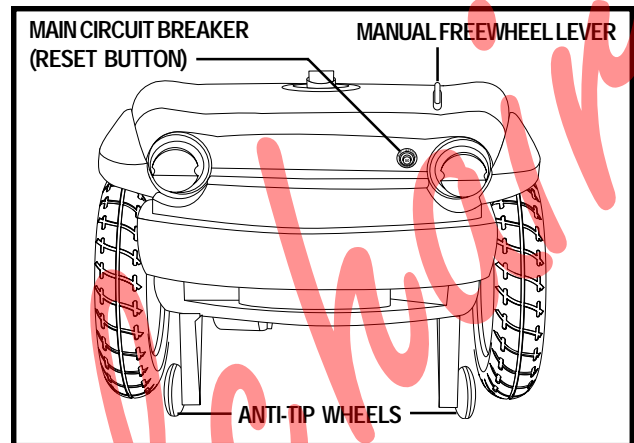

Figure 10. Rear Section
The batteries (not shown), the main circuit breaker (reset button), the manual freewheel lever, the anti-tip wheels, and the motor/transaxle assembly (not shown) are located on the rear section of your scooter. See figure 10.
- The main circuit breaker reset button is located on the rear section. See figure 10.